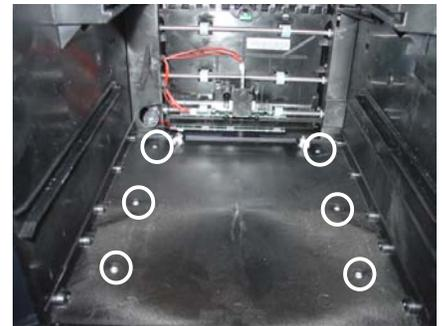

Figure 6. Remove mounting screws.
4. Remove the note and reject cassettes. Using a phillips-head screwdriver, remove the six (6) mounting screws that secure the dispenser to the swivel platform (Figure 6). Remove the TDM dispenser mechanism and place on a flat surface.